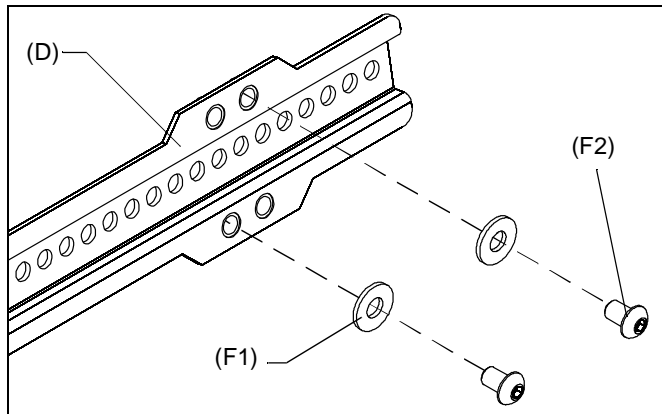

Figure 7
IMPORTANT ! : Attach uprights with four screws per display bracket (D), two at each end. If possible, attach the uprights with one screw in a top hole and one diagonally located in a lower hole on each end of the display bracket. (See Figure 7) At the minimum, one screw should be in a top hole, and one in a bottom hole at each end of the display bracket.